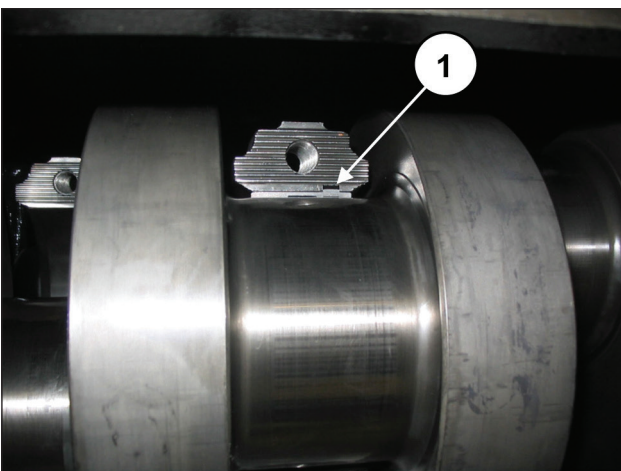

Fig. 58
**For proper assembly of the half-bearings, ensure that the reference tab on the half-bearings are positioned in their housing on the half-conrod (pos. ①, Fig. 58).**